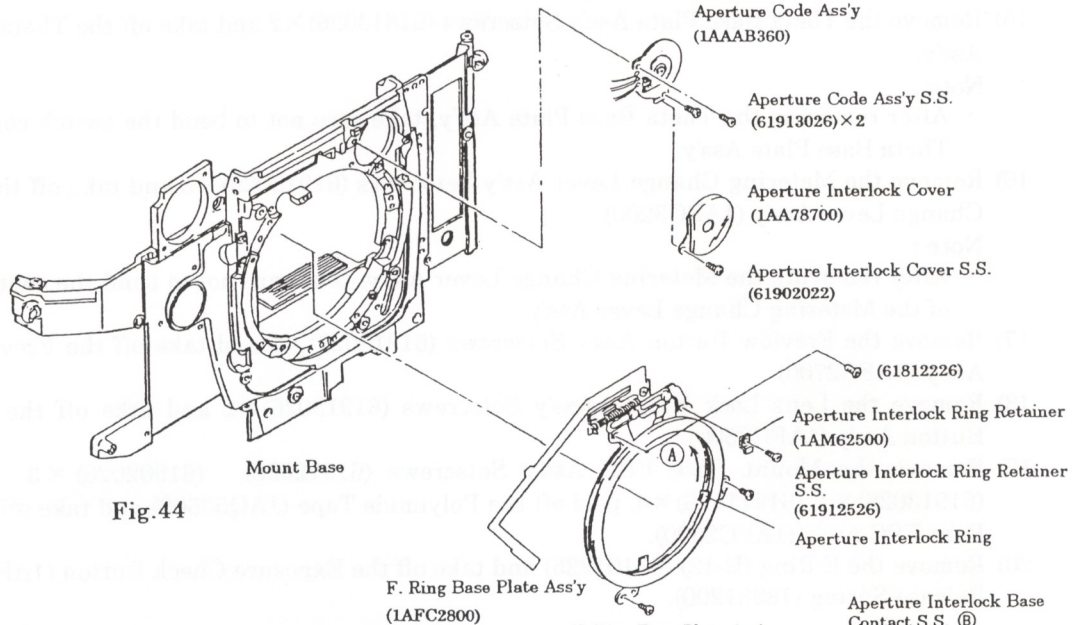

Fig.44
- 3) Move the Aperture Interlock Ring of the F. Ring Base Plate Ass'y in the direction of the arrow (A) (in the direction of aperture opening) and keep it there. (See Fig. 44)